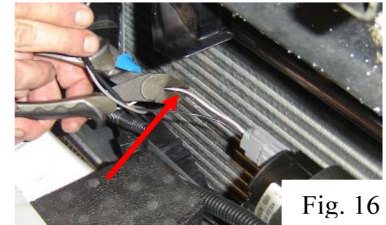

Fig. 16
37) Remove the plastic loom on the coolant pump harness and locate the white & green wire. This wire will have battery voltage when the pump is activated. Cut this wire approximately 2" from the pump connector (Fig. 16).